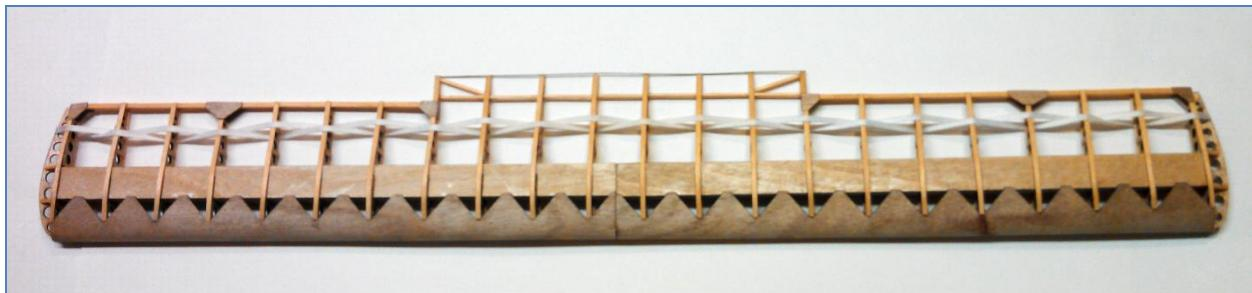

Figure 1.14 Complete Top Wing without Ailerons
- On each half, the 4 inner most ribs (WW4) are the same as on the other wings. The 6 outer ribs (WW19) and the tip ribs (WW20 – 22) are shortened to leave room for the ailerons as shown in Figure 1.14.